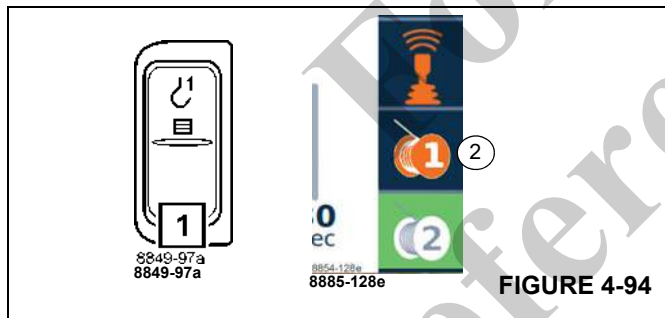

FIGURE 4-94
- Press the button on the right armrest (1), (Figure 4-94) once. Symbol (2) must be red.